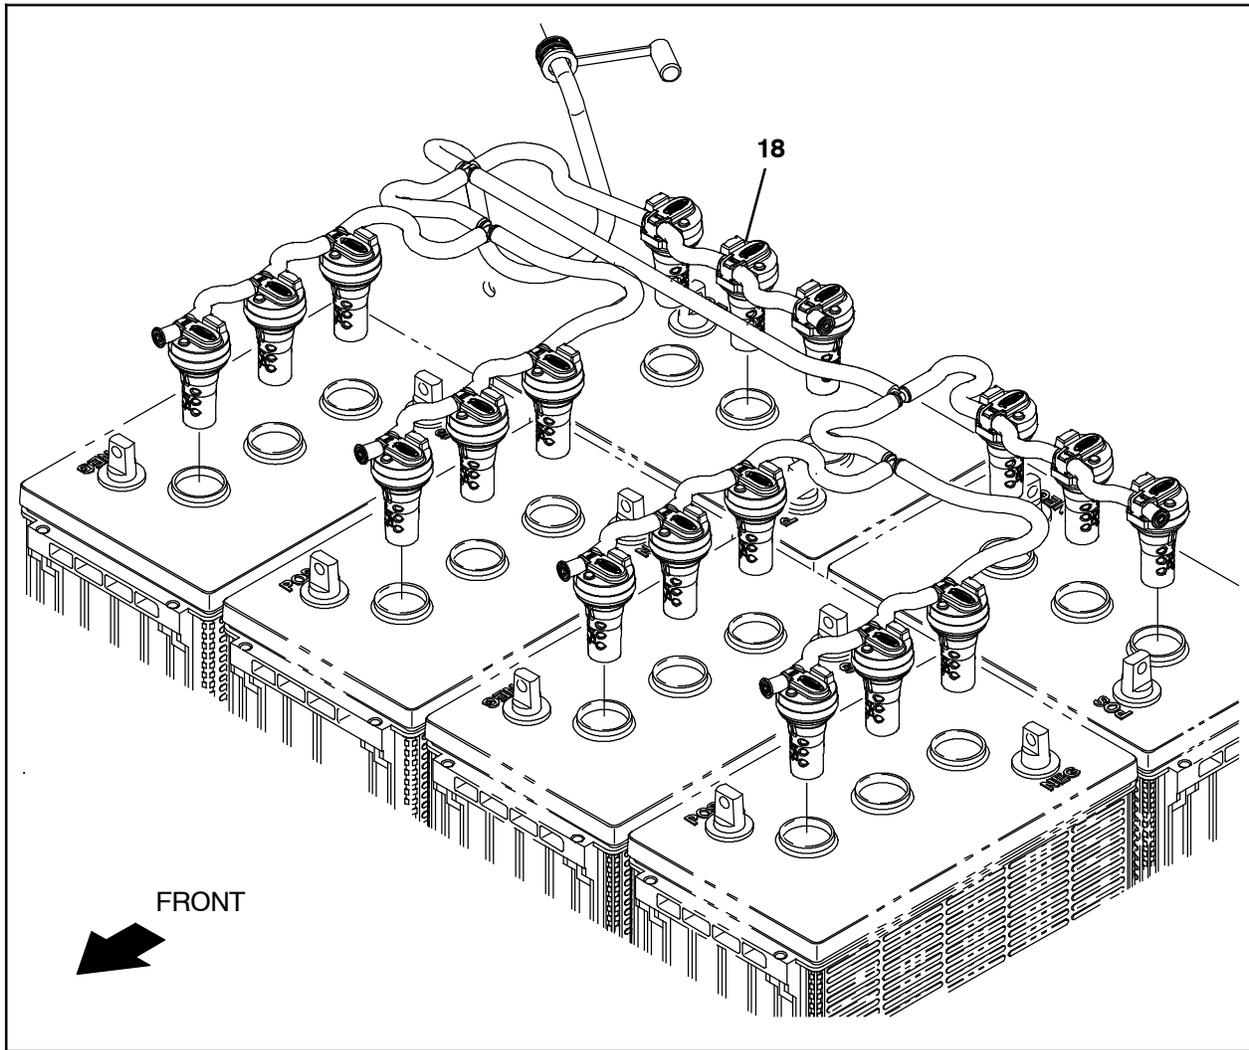

FIG. 12
18. Install the battery watering distribution assembly (18) into the batteries. (Fig. 12)